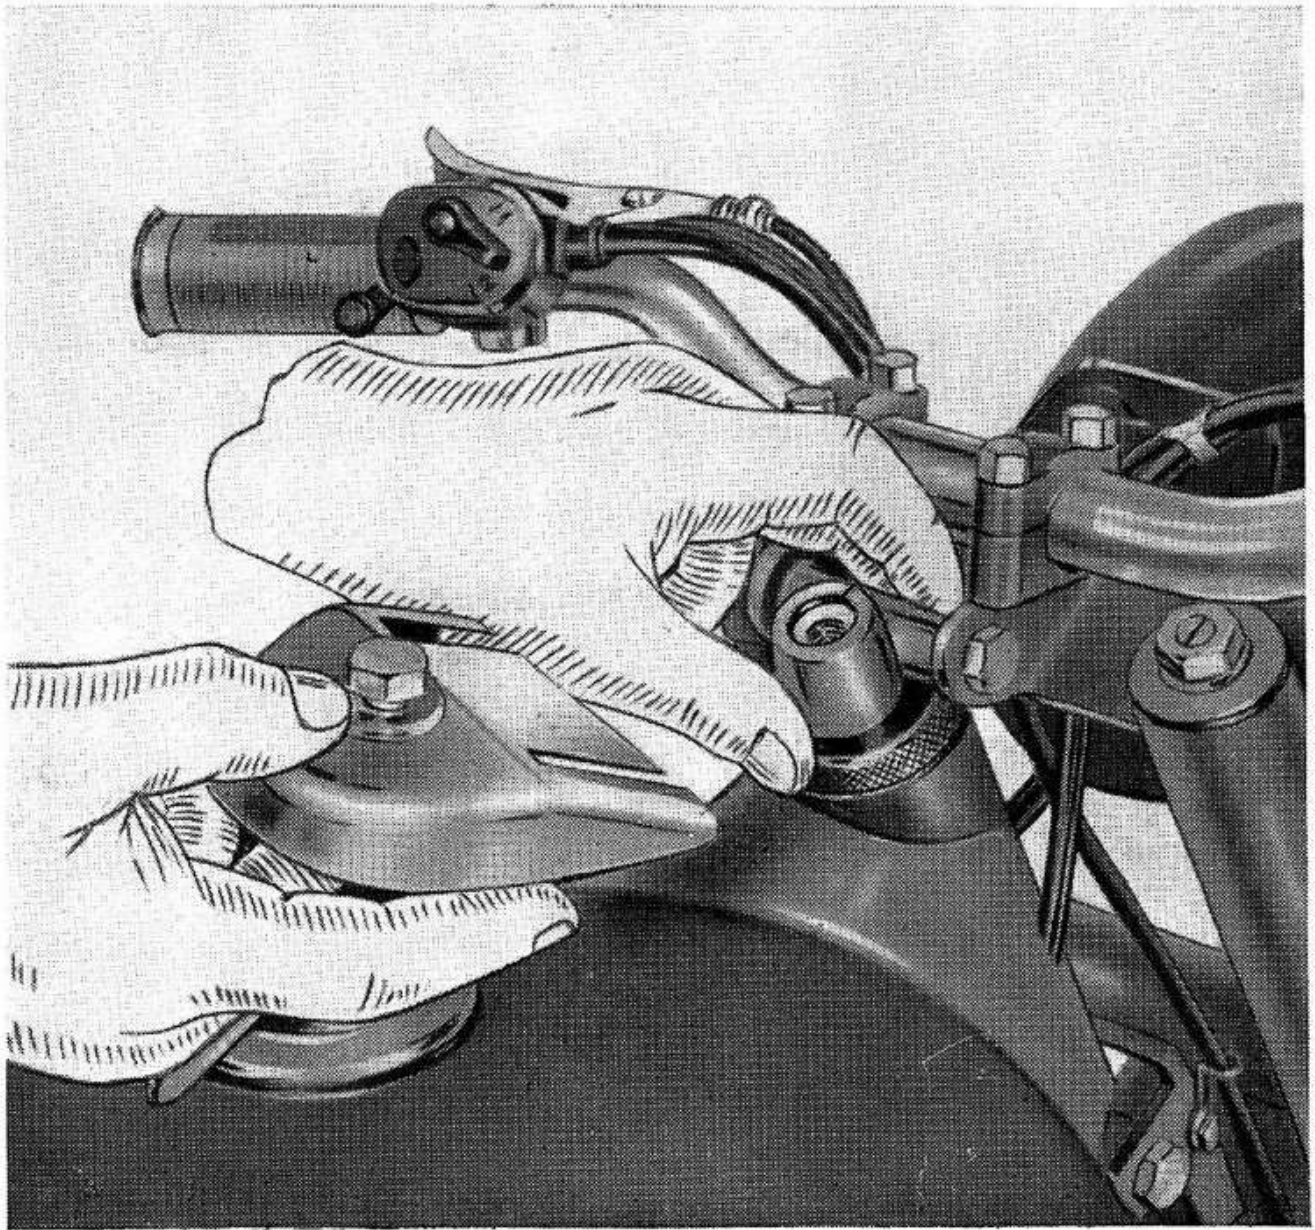

Fig. 14
- c) loosen the central top nut again, and finally lock nut and cap in position (see fig. 14).